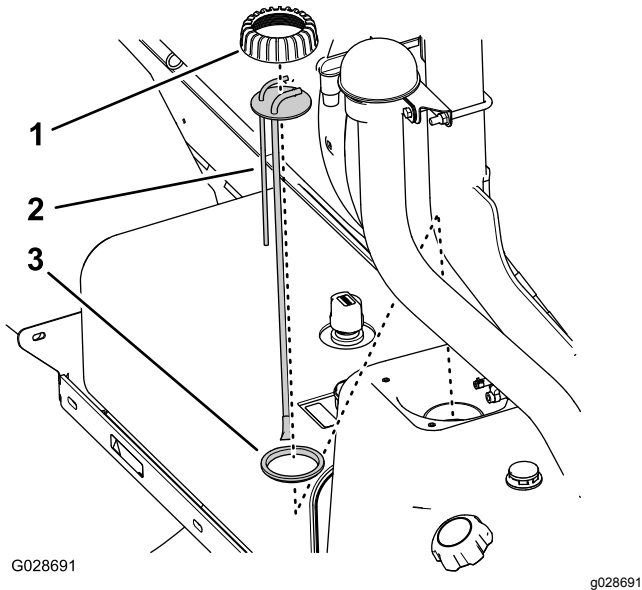

Figure 78
- Rotate the fuel-standpipe/sender cap counterclockwise, then remove the cap (Figure 78).
- Lift the fuel-standpipe/sender assembly from the fuel tank (Figure 78).
- Assemble the standpipe cap over the stand pipe and the standpipe to the seal (Figure 78).
- Align the cap, standpipe, and seal to the tank, and carefully insert the new stand-pipe assembly into the fuel tank (Figure 78).
- Thread the cap onto the neck of the fuel tank and tighten the cap hand tight (Figure 78).